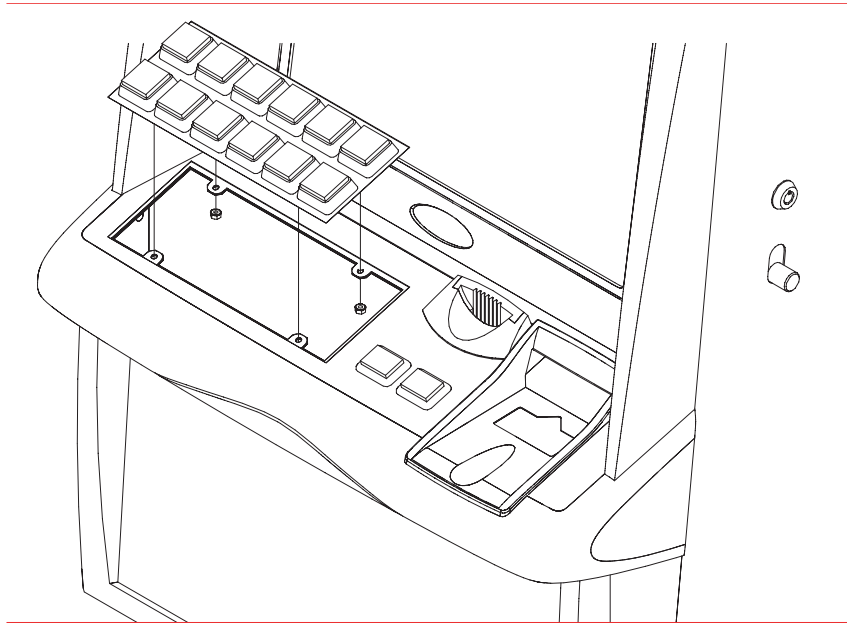

Figure 4-6 Removing the Control Panel on the ES500 Model
3. Remove the nuts and screws attaching the panel to the main door, and pull the control panel from the outside of the door to remove it. The control panel on the ES500 uses four nuts on screws fixed to the control panel and these are removed in the same way (see *Figure 4-6 Removing the Control Panel on the ES500 Model*).